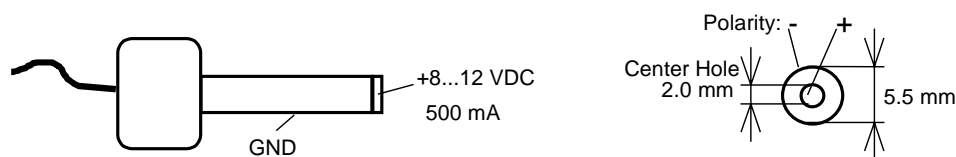

Figure 3: Power Connector
- Using the included power adapter, connect the power socket on the board (P3) to a power supply (*refer to Figure 3 for the correct polarity*).